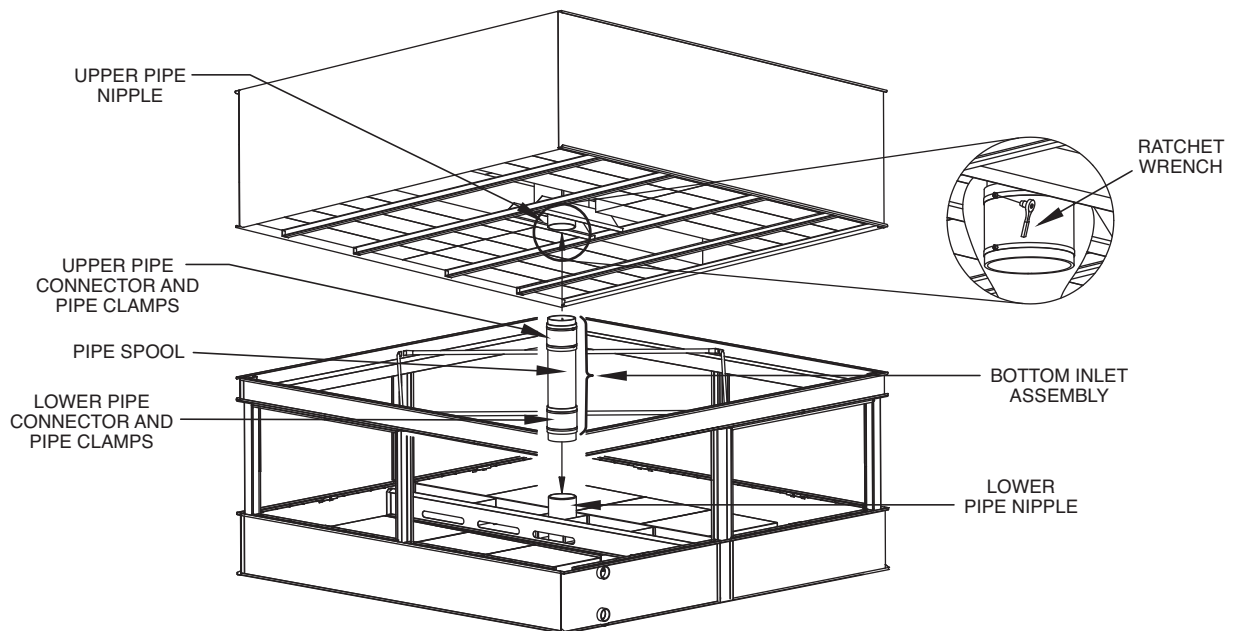

Figure 22 – Bottom Inlet Pipe Spool Installation
Assembly Instructions (Refer to Figure 22.)
3. Position the bottom inlet connection assembly over the lower pipe nipple on the basin section. (see Figure 22.)